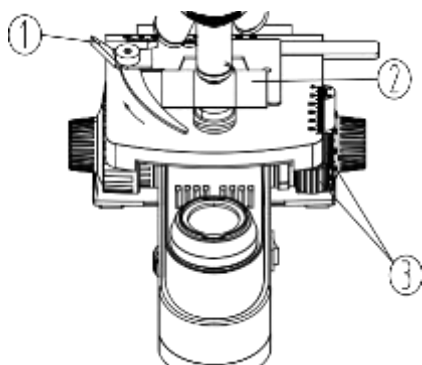

Fig.8
2. Loosen the wrench ① and clamp the slide ② by the clips while the cover glass faces up (see Fig. 8).
3. Rotate the X and Y-axis knob ③. Move the specimen to the center (alignment with the center of the objective).